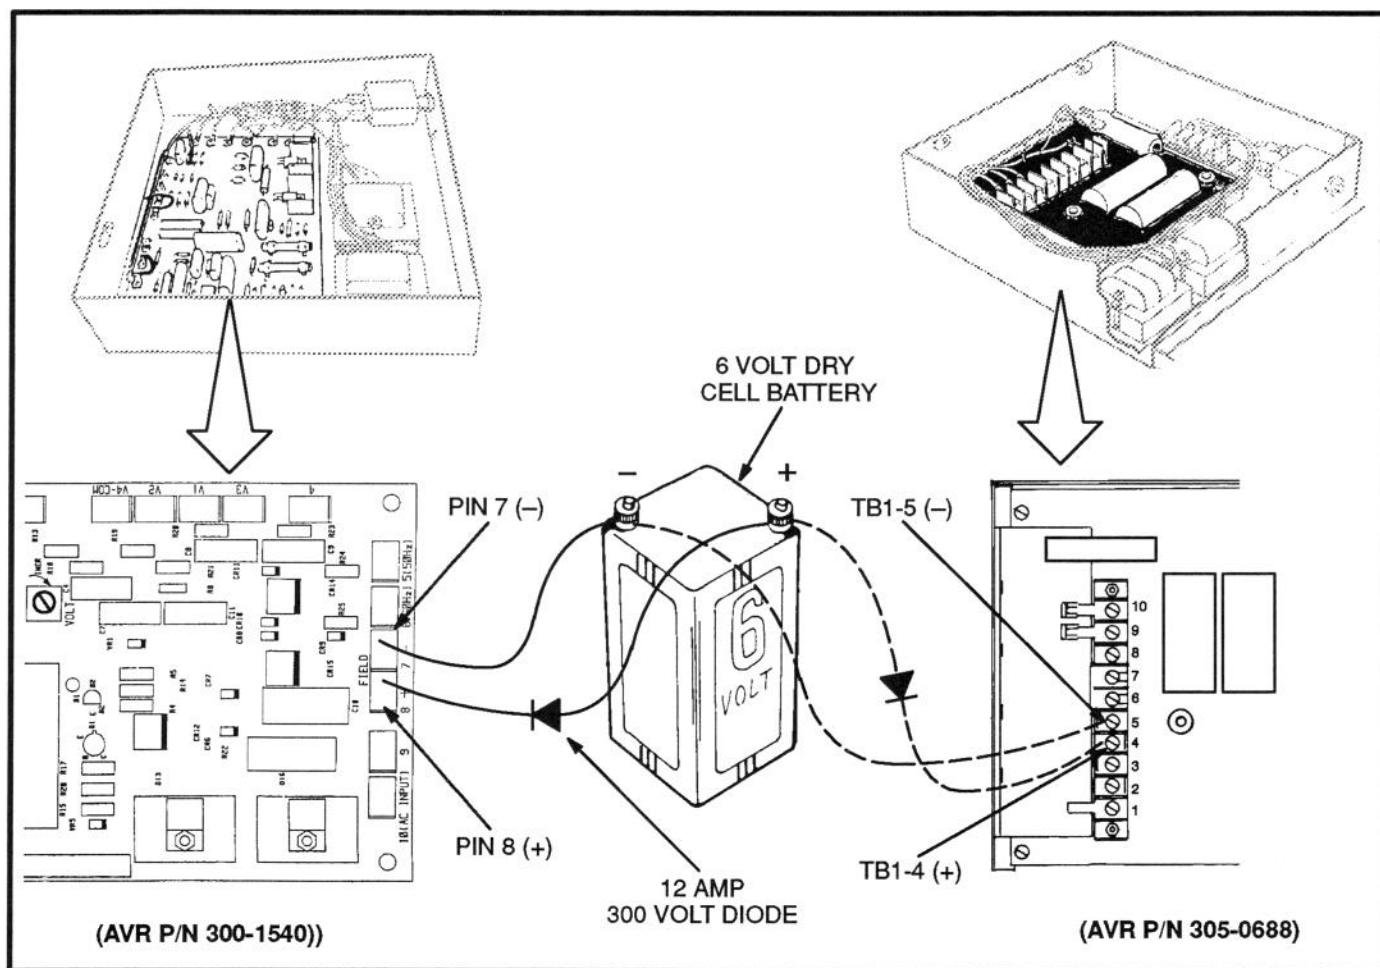

FIGURE 5-3. FLASHING THE EXCITER STATOR
1. There are two types of voltage regulators (VR21) that are available for this genset. Refer to Figure 5-3 to locate the appropriate terminals for battery lead connection.
2. Use a six volt dry cell battery with two clip leads and a 12 amp., 300 volt diode as shown in Figure 5-3. If a six volt battery is not available, a 12 volt automotive battery can be used by adding a 20-ohm resistor in series; or a 24 volt automotive battery can be used by increasing the resistance to 40-ohms.